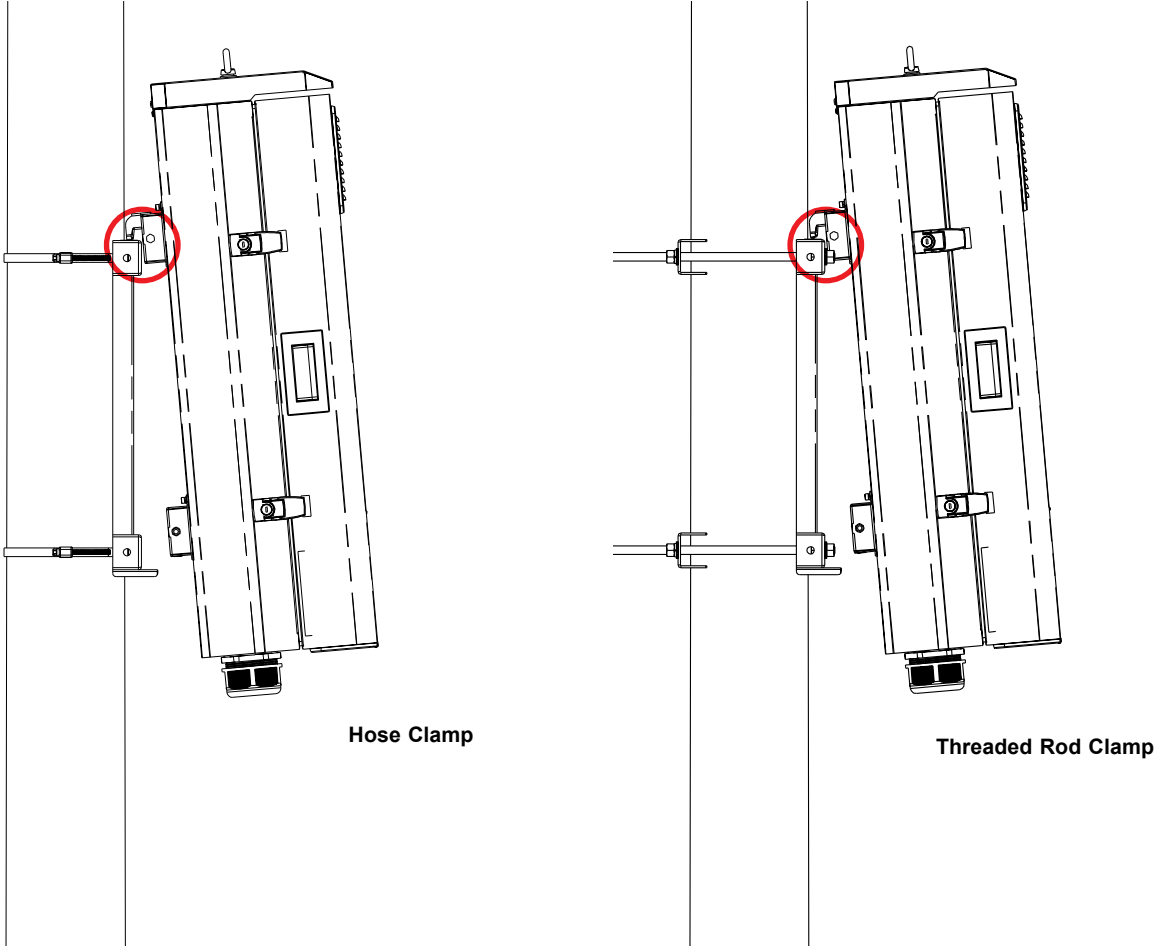

Figure 2-3. Hooking the Cabinet on the Bracket
6. Hook the system on the bracket as illustrated in Figure 2-3